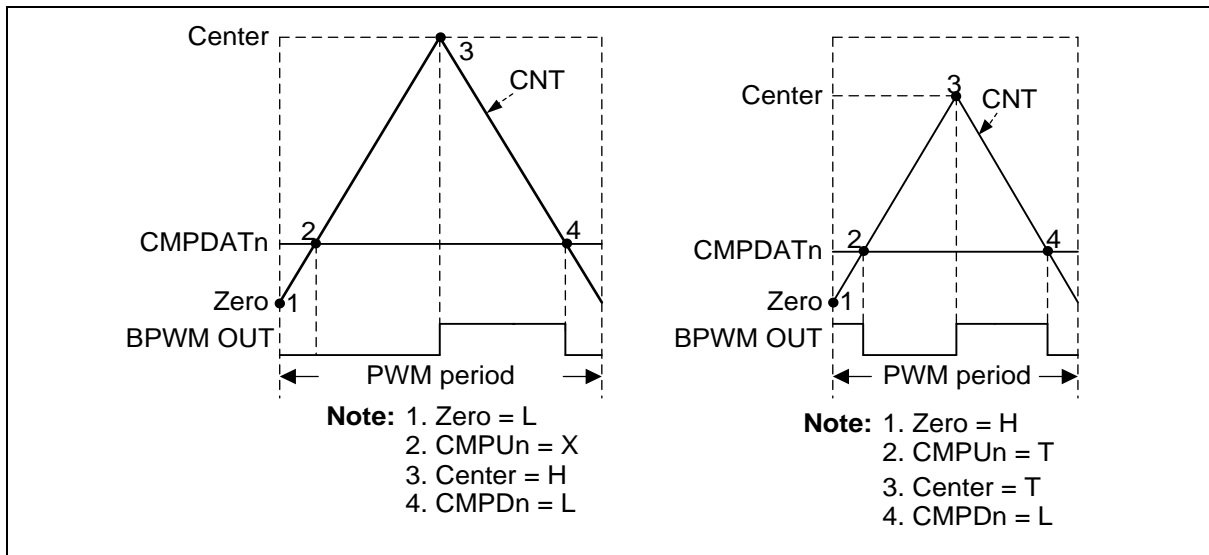

Figure 6.15-14 BPWM Pulse Generation (Left: Asymmetric Pulse, Right: Variety Pulse)
Each event point can decide BPWM waveform to do nothing (X), set Low (L), set High (H) or toggle (T) by setting BPWM_WGCTL0 and BPWM_WGCTL1 registers. Using these points can easily generate asymmetric BPWM pulse or variant waveform as shown in Figure 6.15-14. In the figure, there is a comparator n to generate BPWM pulse, where n denotes channel number 0 to 5. CMPU denotes CNT is equal to CMPDAT when counting up, and CMPD denotes CNT is equal to CMPDAT when counting down.